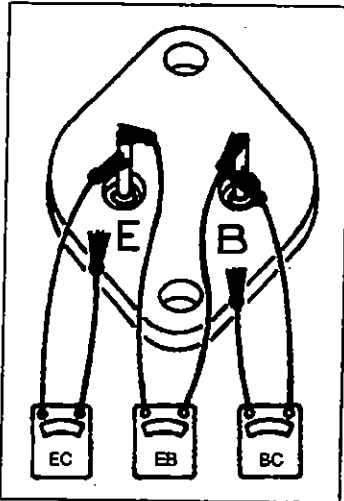

Figure 35 06081
- B) By removing any retaining screws involved and unsoldering the connections. When resoldering, limit solder time to a minimum as excessive heat may damage the printed circuit board and component parts. However, good soldered connections are essential for satisfactory operation. A resin core 63% tin 37% lead solder with a 360 °F (182 °C) melting point is recommended along with a soldering iron rated at 50 watts or less. Use extreme care to avoid overheating. Before checking the printed circuit board, remove transistor TR1, which must be checked separately. Connect the ohmmeter as shown in figure 35, and then reverse the ohmmeter leads to obtain two readings on the same component. Use the middle scale on scale-type meters on which the 300 ohm value should be within, or nearly within, the middle third of scale.
**Transistor TR1** = See figure 35. Use the low scale. Each of the three checks should read low and high. If not, replace TR1.